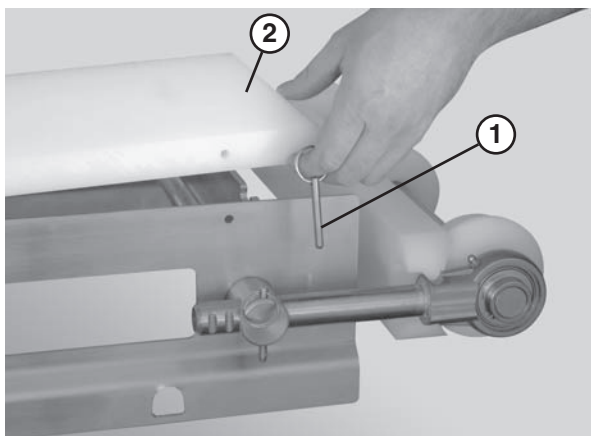

Figure 43
1. Remove the pull pins (**Figure 43, item 1**) that connect the guide (**Figure 43, item 2**) to the frame.